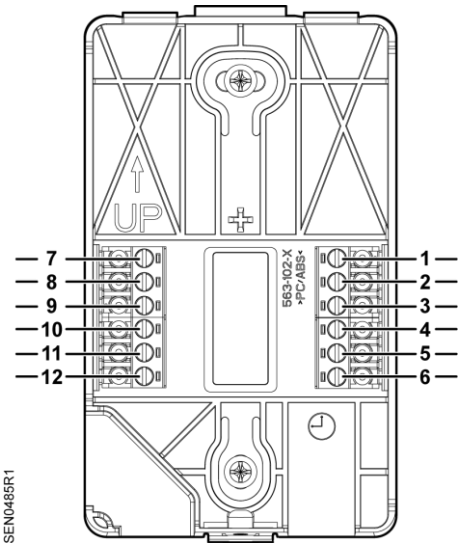

Figure 6. Typical Wiring Base.
When applying the adhesive-backed gasket to the back of the unit base, orient the gasket so that the cut-out arrow portion of the gasket is in the upper lefthand quadrant of the unit base. The sensor base has an UP arrow molded into the surface in the same quadrant location (see Figure 6).
7. Terminate the wires to the termination blocks on the room unit's base plate. (See Figure 6.)